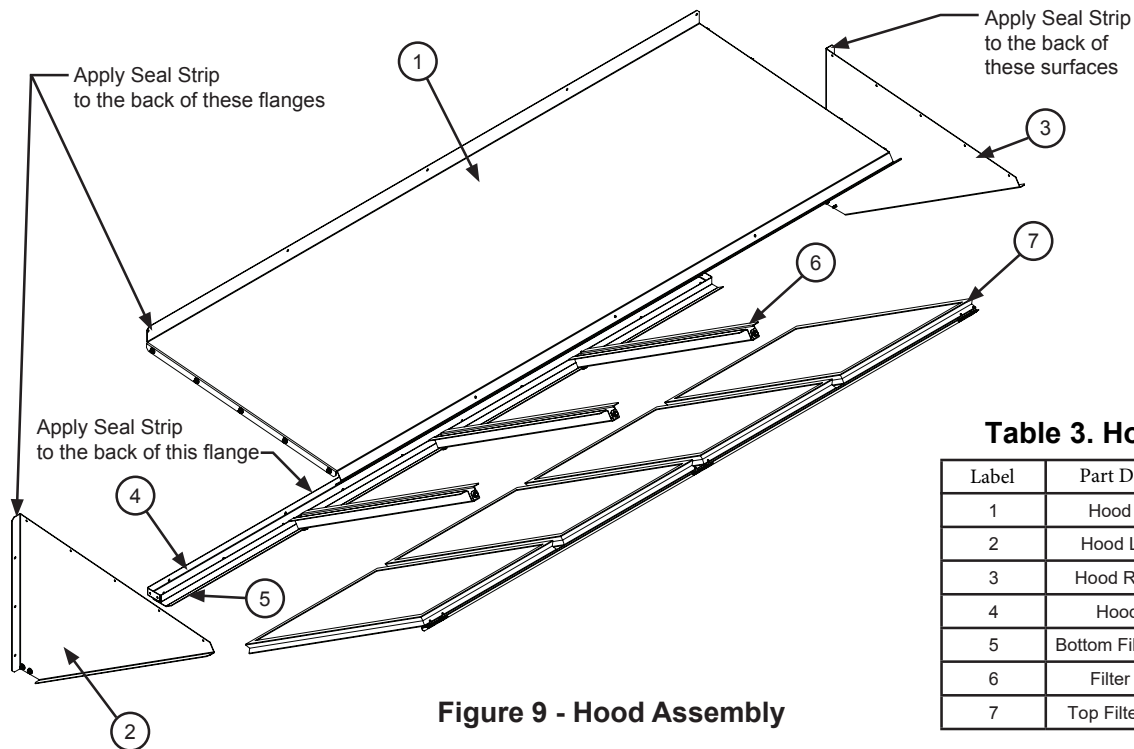

Figure 9 - Hood Assembly
11. Assemble the outside air hood per Fig. 9 and 10.